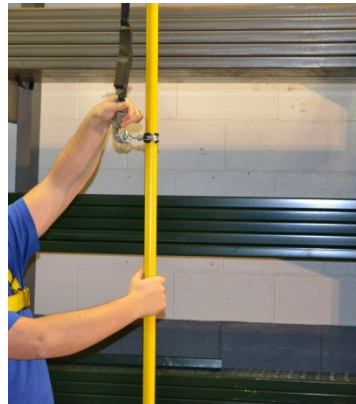

Figure 18 - Disconnect Snap Hook
14. Disconnect snap hook from eye bolt. See Figure 18.
- 20ft Rebel Part Number 3100431 with AJ520A hook on lifeline, AJ514A carabineer on housing (See Figure 18)